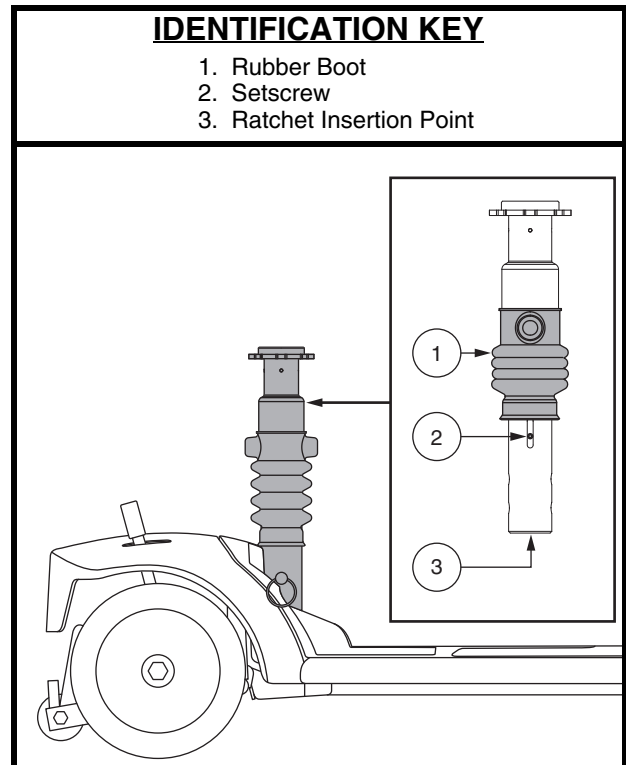

Figure 20. Seat Suspension Adjustment
The seat post acts as a shock absorber and can be adjusted for different degrees of ride comfort. Use the setscrews that are visible through the adjustment window on the side of the post as a guide when making adjustments. Slide the rubber boot towards the top of the post to expose the setscrews. See **figure 20**.
3. Insert a 13 mm socket with an extension into the bottom of the post. See **figure 20**.